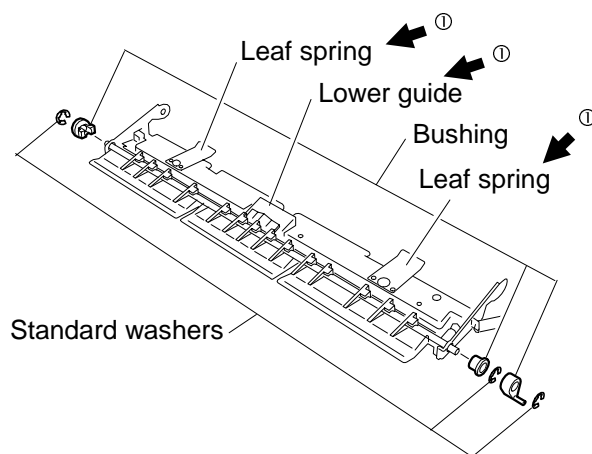

Fig. 11
11) Replace the reversing flapper with its countermeasure replacement, and re-attach the bushing and the standard washers. (Fig. 11)